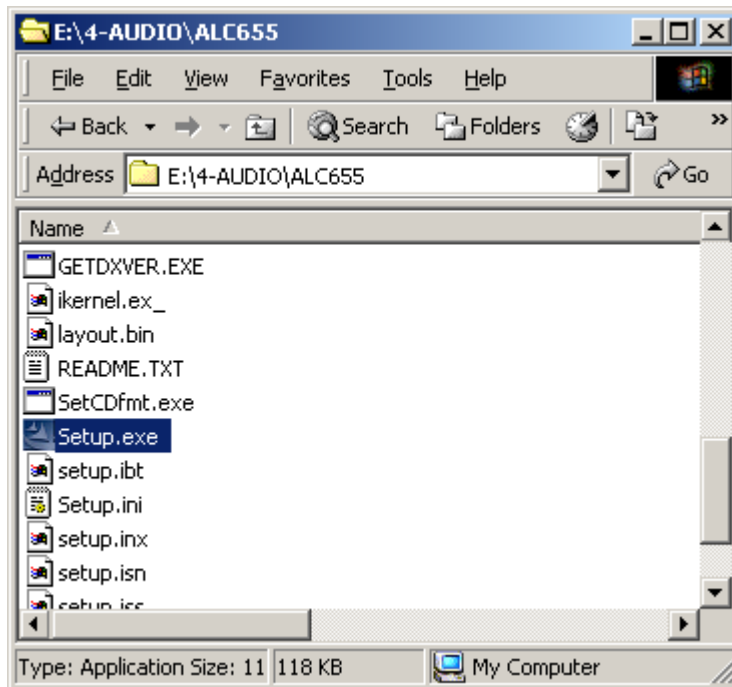

Figure 7-40: Locate the Setup Program Icon
Step 6: A new window opens (Figure 7-40).
Step 7: Double-click the **Setup.exe** program icon in Figure 7-40.